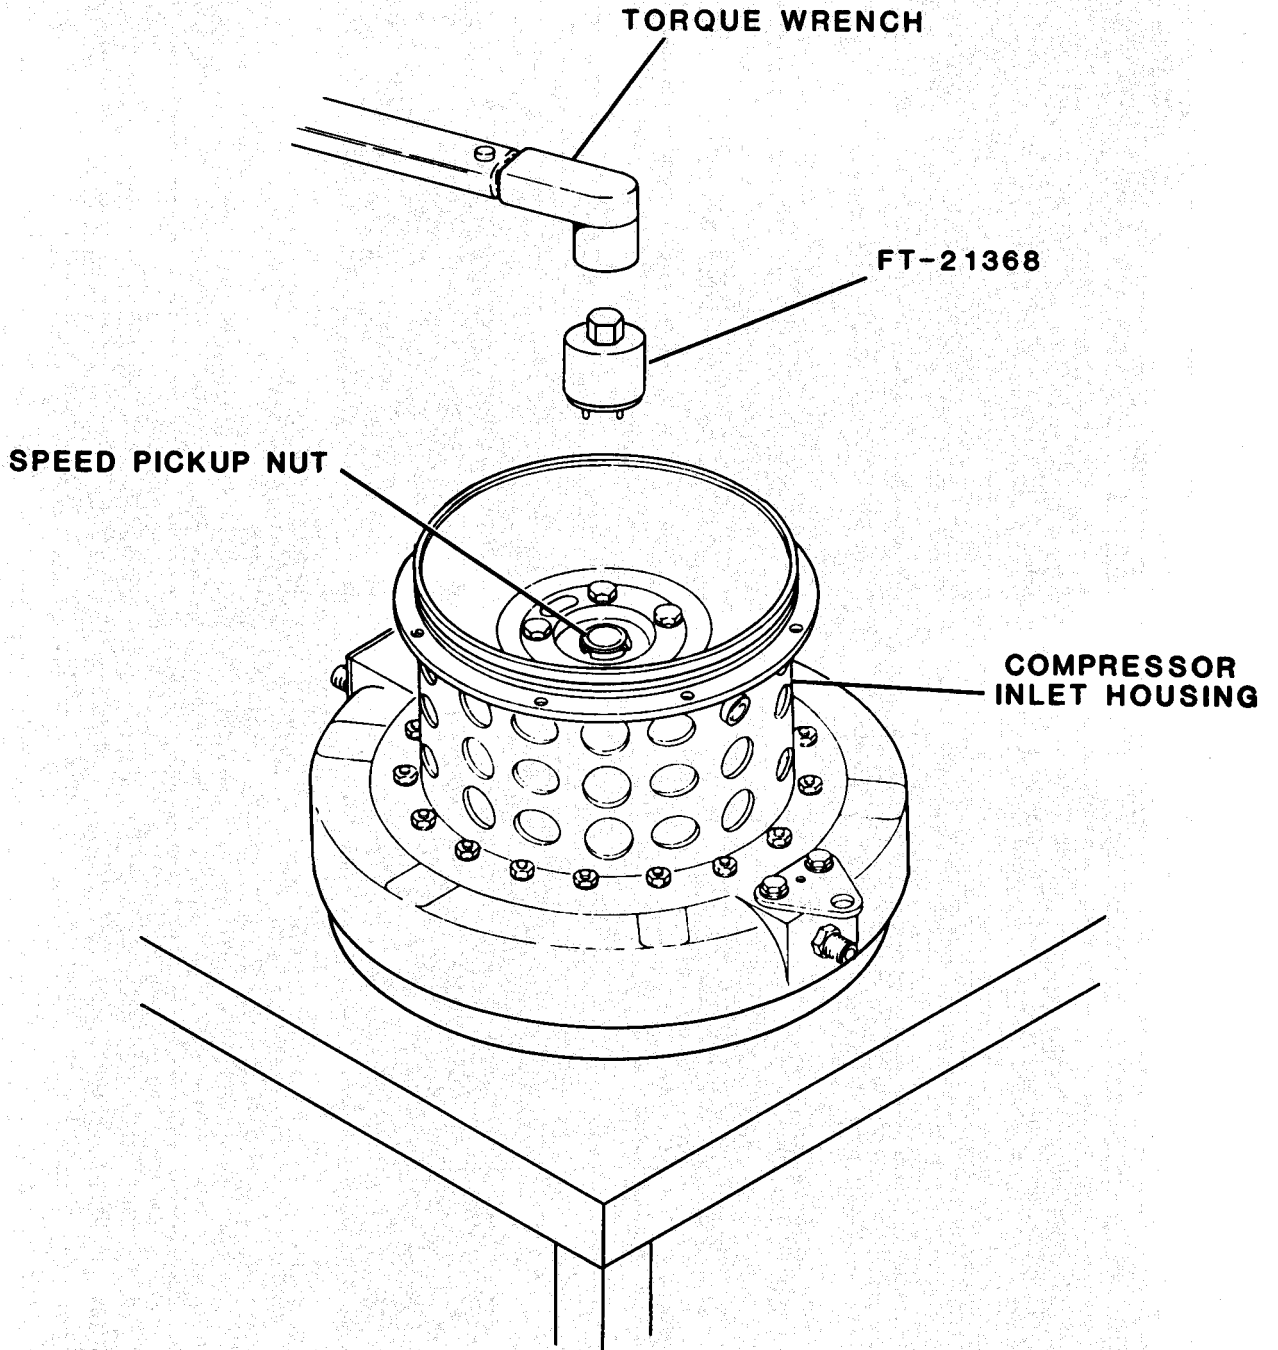

Figure 8-9. Removing/Installing Speed Pickup Nut Using Fabricated Tool FT-21368
(10) Using fabricated tool (FT-21368, Figure 8-9) remove and discard speed pickup nut (14, Figure 8-6)